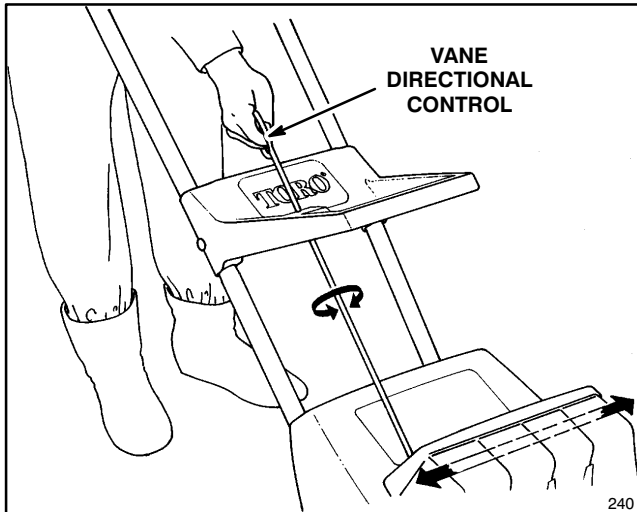

Figure 6
3. Direct the snow to left, right or straight ahead by twisting the vane directional control attached to the middle handle (Fig. 6).